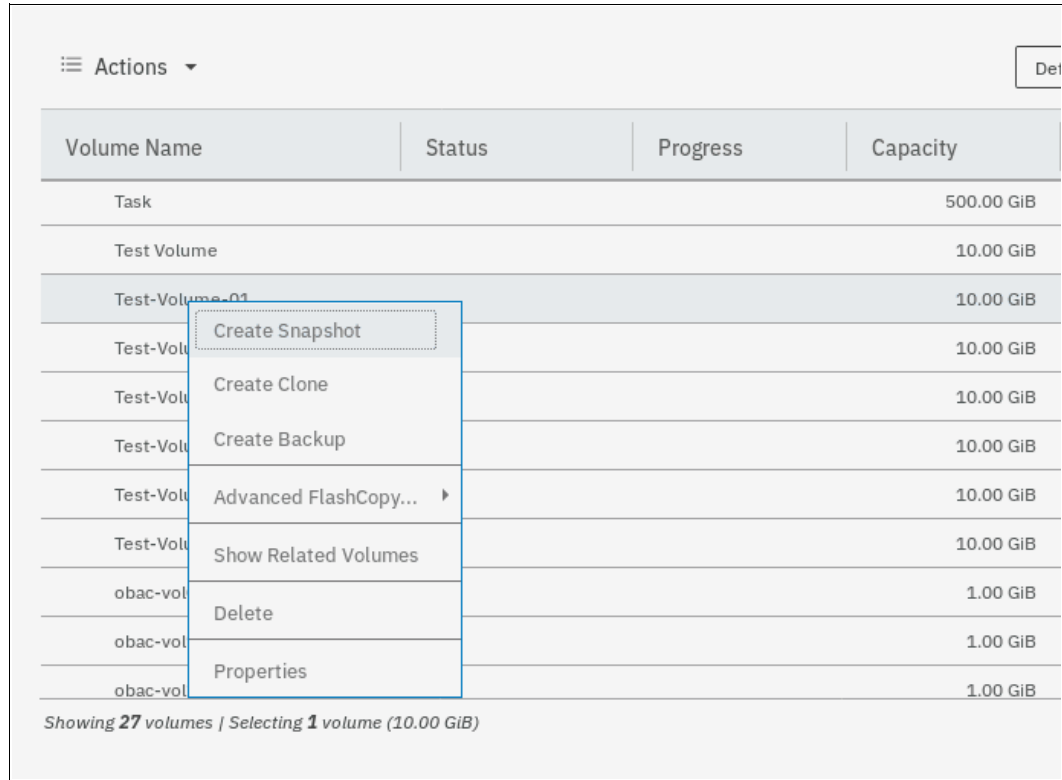

Figure 10-32 Single-click snapshot creation and start
2. Select the volume that you want to create a snapshot of, and right-click it or click **Actions** → **Create Snapshot**, as shown in Figure 10-32.